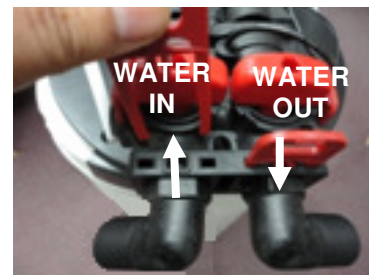

Fig 1
- The system has 3 connections - an inlet, an outlet, and a drain line connection. If you are looking at the back of the unit (fig 1), the inlet is on the left side. **Warning: Make sure that you have correctly identified the inlet of the system. REVERSING THE CONNECTIONS WILL RESULT IN FILTER MEDIA BEING THROWN INTO YOUR HOME'S PLUMBING SYSTEM CAUSING DAMAGE TO IT AS WELL AS THE Filter system.**